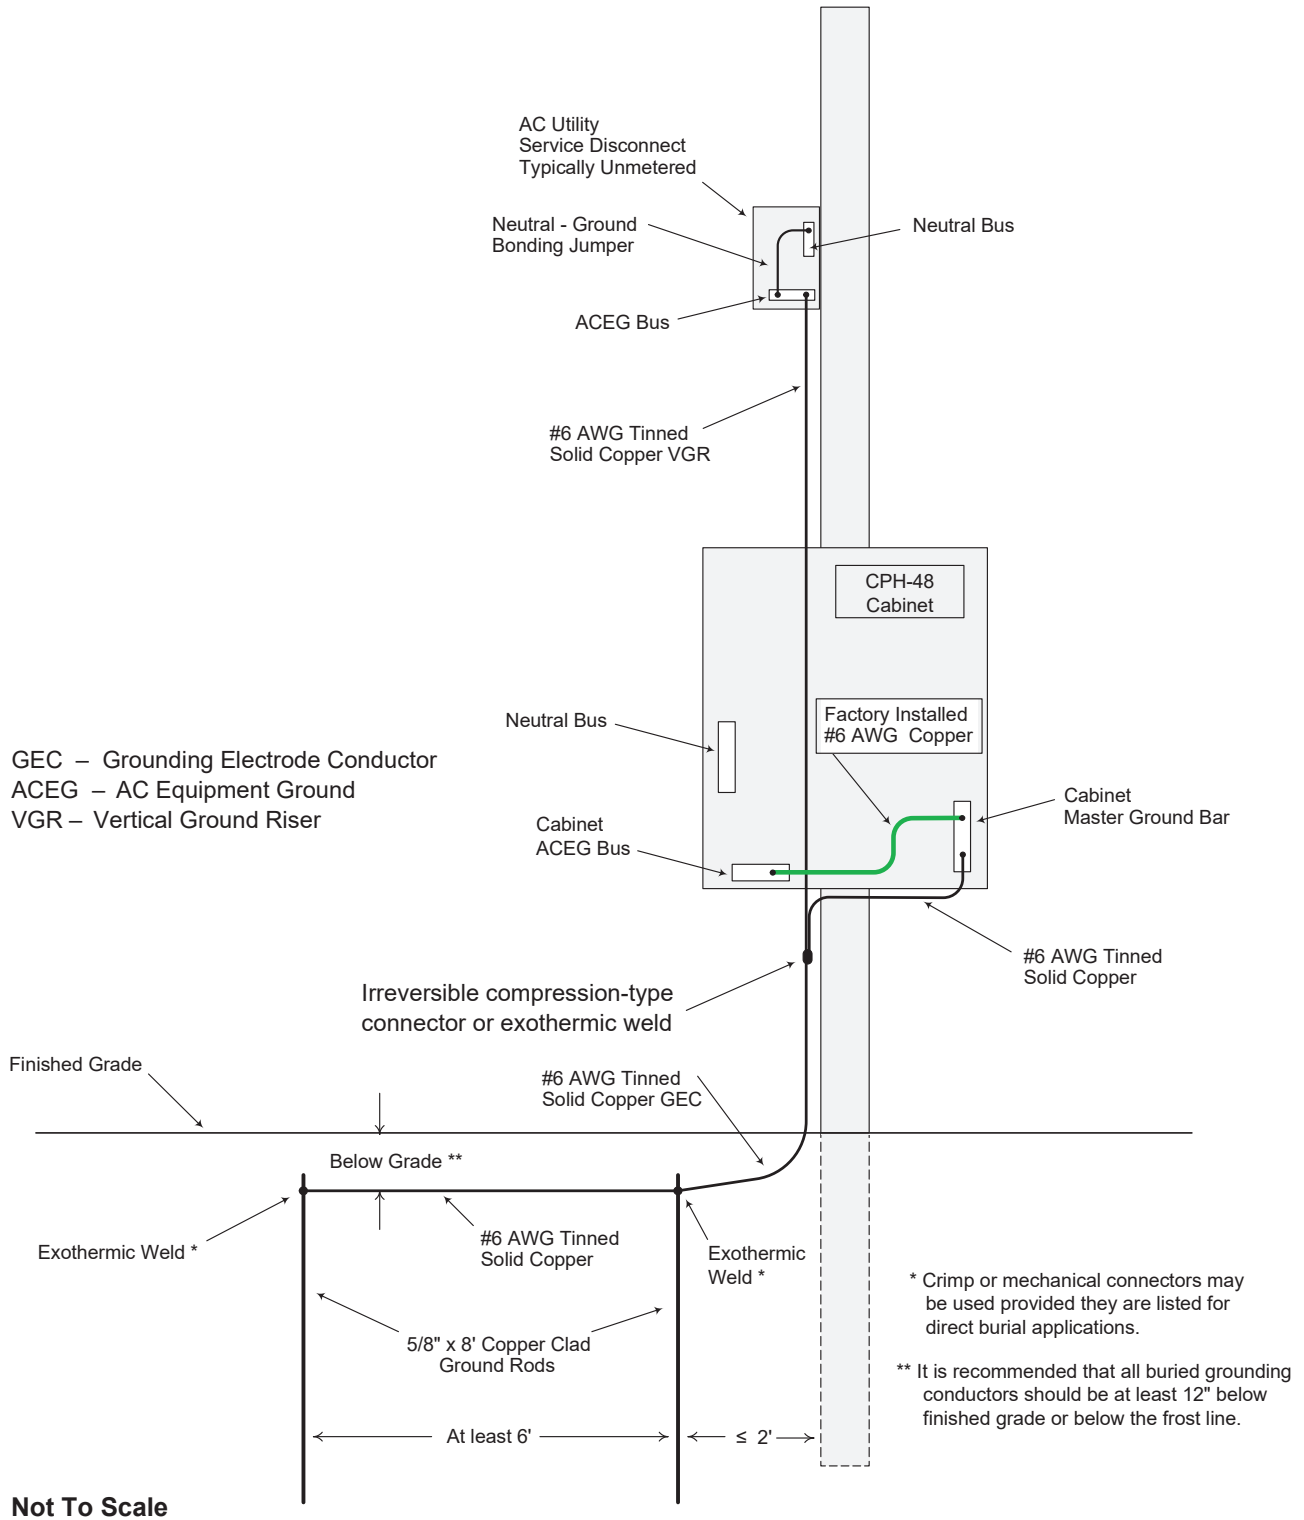

Figure 7 — Recommended CPH-48 cabinet grounding system
The CPH-48 enclosure is designed for pole mounting only. Alpha offers a versatile wood pole mounting bracket solution (Alpha part number 0370452). The bracket allows the enclosure to be mounted flush with the pole. Refer to Figure 7 for pole mount bracket information.
1. Install a **continuous** length of 6 AWG tinned solid copper ground wire (grounding electrode conductor) connecting the two driven ground rods and terminate it on the ACEG bus in the AC service disconnect enclosure. This length of conductor serves as a Vertical Ground Riser (VGR) (refer to Figure 7).
2. Route a length of 6 AWG tinned solid copper conductor from a junction point with the VGR at a location below the cabinet to the Enclosure MGB, located on the right-side wall (refer to Figure 7).
Avoid tight radius bends and route the conductor such that it intersects with the VGR in a downward manner as illustrated in Figure 7.